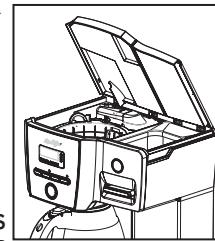

Figure 5
3. Open the lid and pour the amount of water you wish to heat and use up immediately (up to 16 fluid ounces – 475 ml.) into the heating chamber. **DO NOT OVERFILL HEATING CHAMBER. DO NOT USE MORE THAN 16 FL. OZ.(475 ml).** Water level should always be lower than the black plastic edge in the heater. (Figure 5)
2. Place a MR. COFFEE® brand 10-12 cup paper basket-style filter or a MR. COFFEE® permanent filter into the removable filter basket (sold separately). (Figure 5).